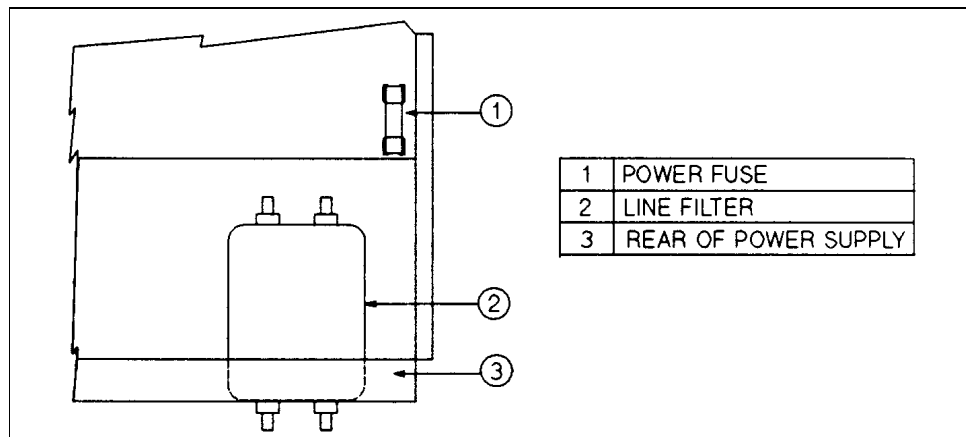

Figure 3-1. Series 657xA Line Fuse
- C. Slide the dustcover back far enough to expose the line fuse (1, Figure 3-1).